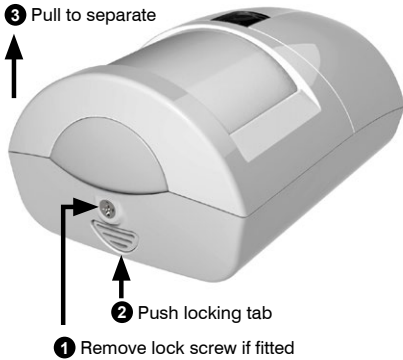

FIG 1.
- 1 Remove the lock screw at the bottom of the LUX assembly (if fitted) then push the lock tab and lift the capsule out of the back housing. See Fig 1.